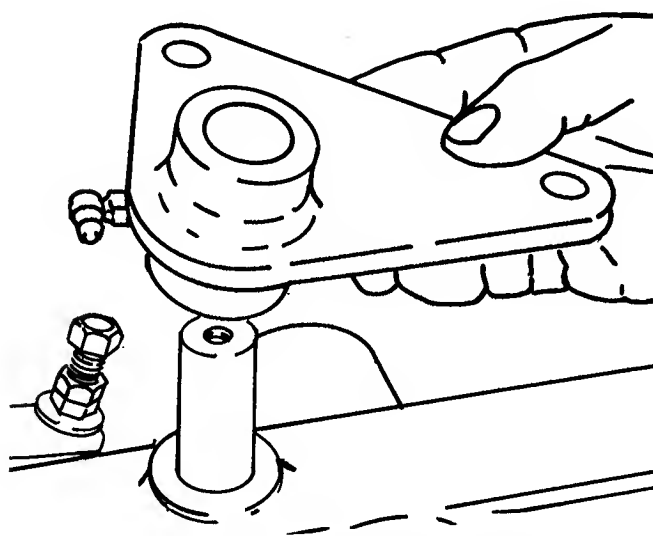

FIG. 2.28 — REMOVING BELLCRANK
10. Install bushings in bellcrank arm flush with machined surface. Fig. 2.28.